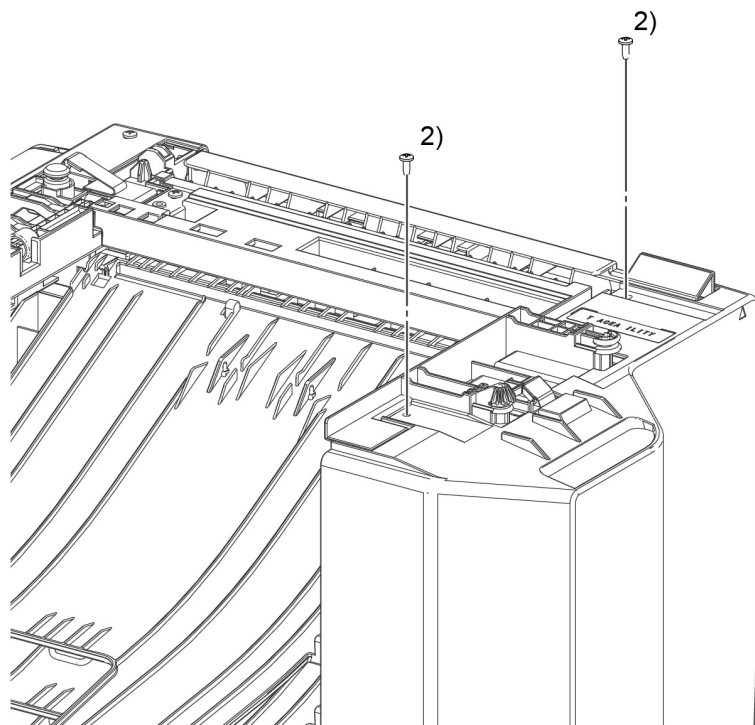

Figure 1 Removing bottom screws
2. Remove two screws SM20, Figure 1.